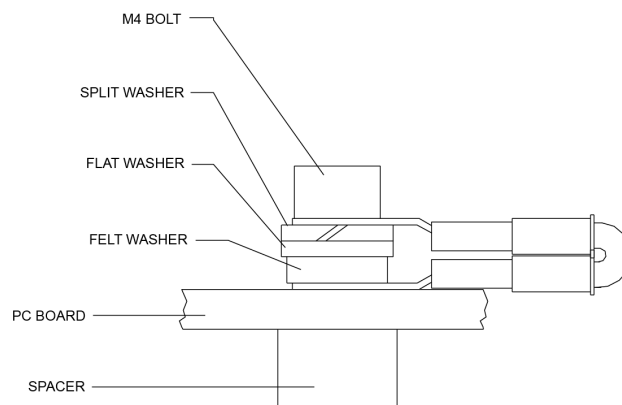

Figure 62. Ground Jumper
2. Using a 3 mm Allen wrench and a 7mm wrench remove the nuts from the bolts that secure the Spare Boards together. You will be using these bolts to secure the spare set in your system. DO NOT change the position of any of the bolts. The bolt containing the felt washers and ground jumper must remain in the same position (see Figure 62).